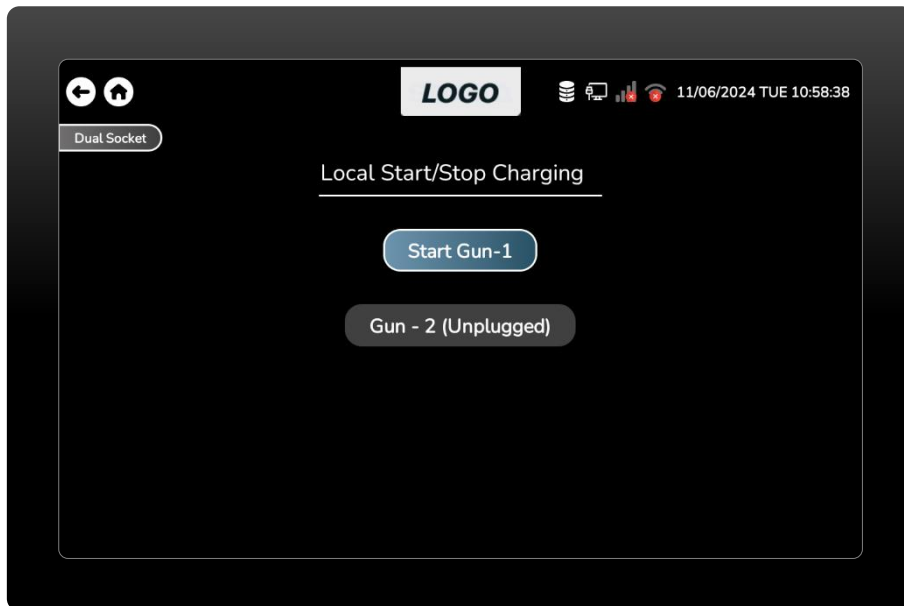

Figure 13 Local Start / Stop Charging Screen.
- This is a local start/stop charging screen that allows the user to start or stop charging from the HMI screen. (Figure 13)